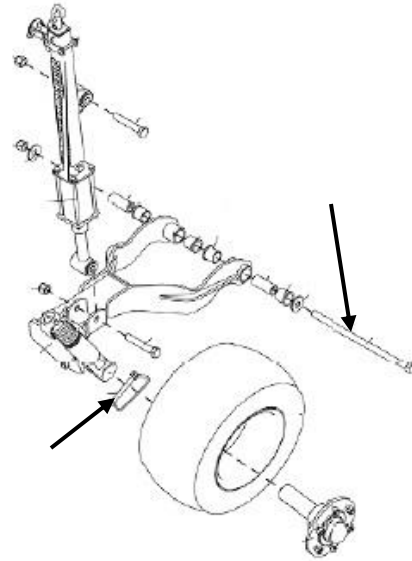

Figure 22
7. Remove the  $\frac{3}{4}$ " bolt assembly from the front of the gauge wheel mount. **Note: On 30 foot and above units this bolt holds the rear of the cutterbar paddle. Make certain the paddle is supported before the bolt is removed.** Figure 22